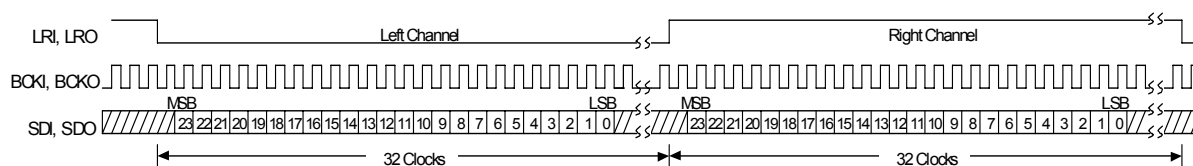
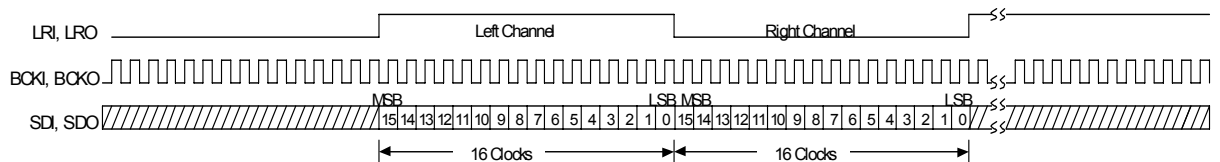

Fig.6-1 I²S Data Format 64fs, 24bit Data
Fig.6-12 Right-Justified Data Format 32fs, 16bit Data
The NJU26120 can use three kinds of formats hereafter as industry-standard digital audio data format; (1) I²S (2) Left-Justified (3) Right-justified and 16 / 18 / 20 / 24bits data length. (Fig.6-1 to Fig6-12)